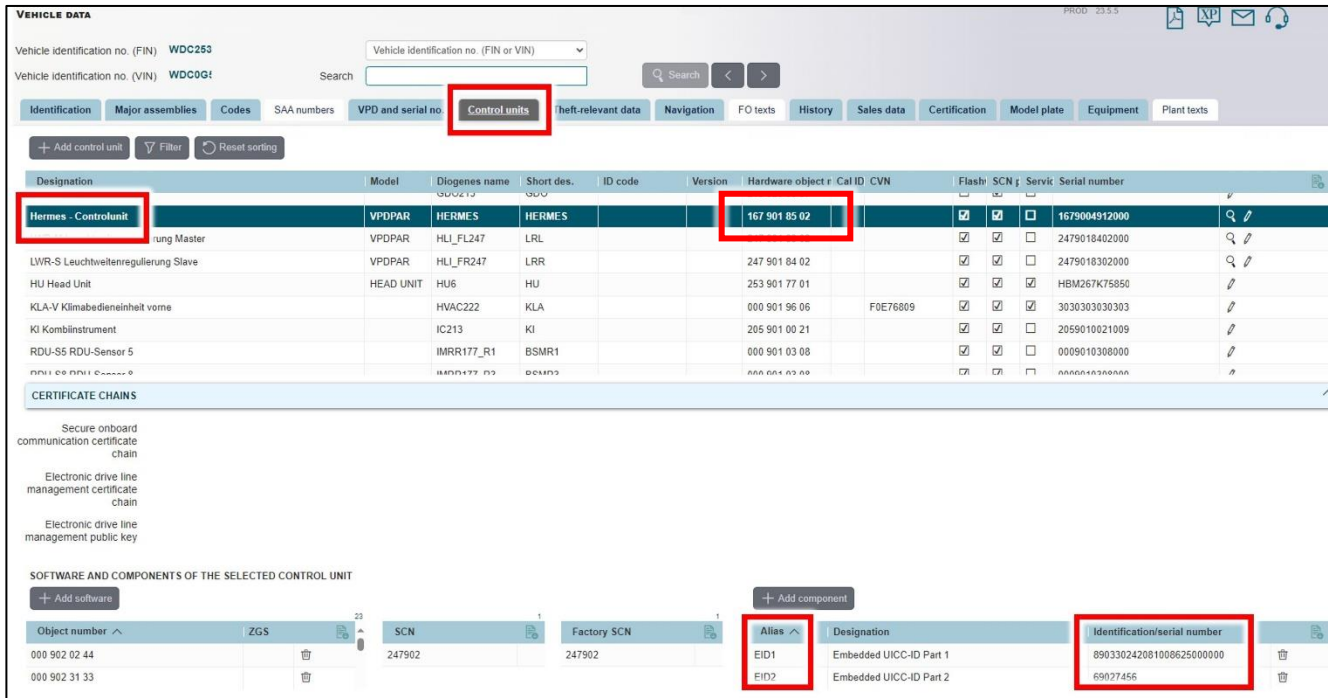

Figure 6**
i To do this, enter the VIN, “Search”, select “Control units”, and click on “Hermes - control unit” (Figure 6).
** Make note of the HERMES Hardware object number for determining replacement part number! (e.g. Figure 6 – Hardware object number is 167 901 85 02)